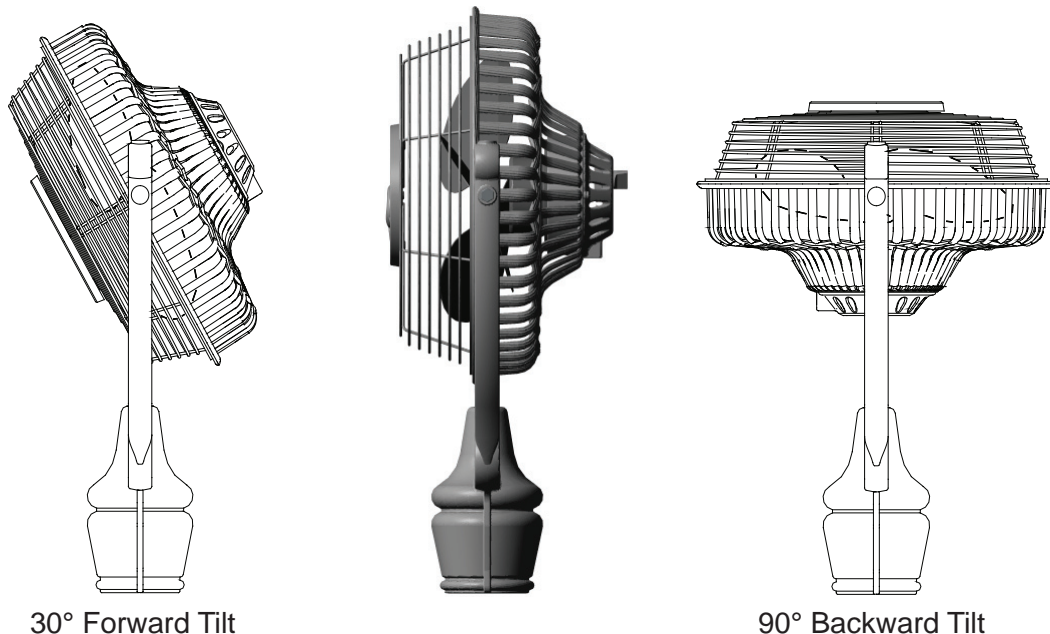

Fig. 28
3. Position fan grill to desired position by hand. Fan position is limited to 30° forward tilt and 90° backward tilt (Fig. 28). Loosen side bolts on Motor Assembly. Position Motor Assembly to desired position and retighten bolts.